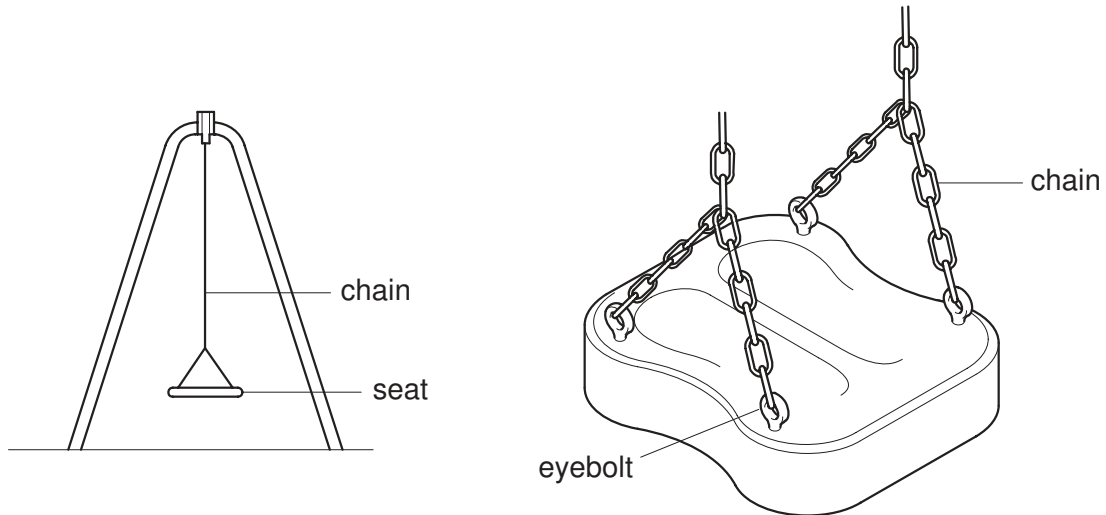

Fig. 4
- 6 Fig. 4 gives details of a child's swing. The hollow plastic seat has been made using blow moulding.